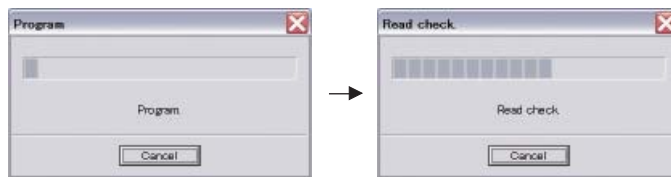

Fig. 5
6. Click [E.P.R.], then the "Erase" screen appears. (Fig. 5)
7. Click [OK] to start writing. (Fig. 5)